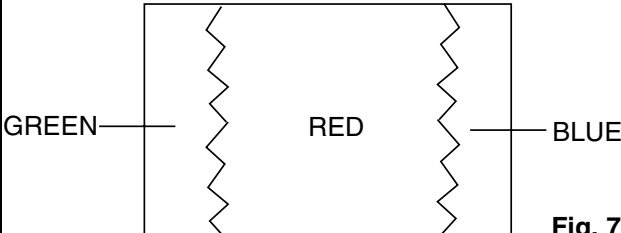

Fig. 7
- Loosen the Ring Lock and adjust the Purity Magnets so that a red field is obtained at the center of the screen. Tighten Ring Lock. (See Fig. 7,8.)